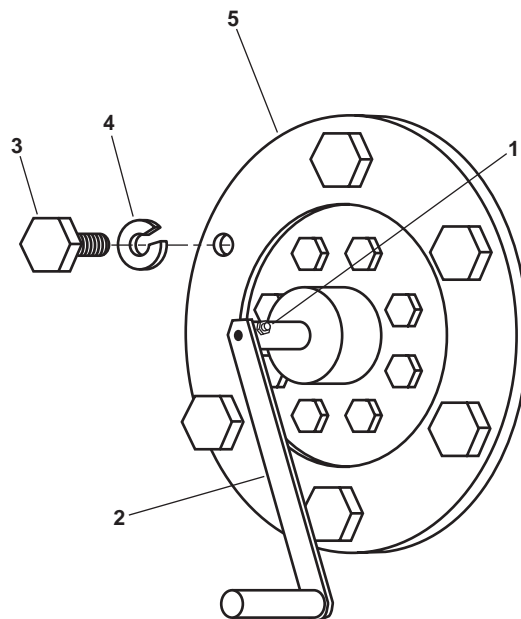

Figure 2. Hand Pump
4. Remove the two taper pins (figure 2, item 1) from the hand crank (figure 2, item 2). Remove the hand crank. For the local pump, remove both hand cranks.
5. Remove the six bolts (figure 2, item 3) and lockwashers (figure 2, item 4) from the pump (figure 2, item 5). Discard the lockwashers.
1. Install the pump (figure 2, item 5) and secure it with six new lockwashers (figure 2, item 4) and six bolts (figure 2, item 3).
2. Install the hand crank (figure 2, item 2) and secure it with the two taper pins (figure 2, item 1). For the local pump, install both hand cranks.